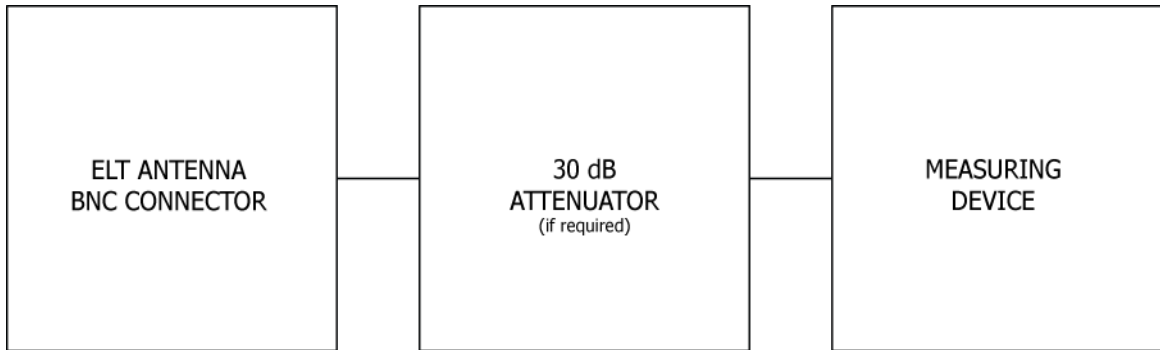

Figure 9 Performance Testing Equipment Setup
- 3) Ensure that adequate attenuation rated for 406 MHz is installed between the ELT antenna output and the measurement equipment to prevent damaging input circuitry, if required. At a minimum, the attenuator should be rated at 30 dB, and 5 watts for a 1/2-second duration as shown in Figure 9 Performance Testing Equipment Setup.